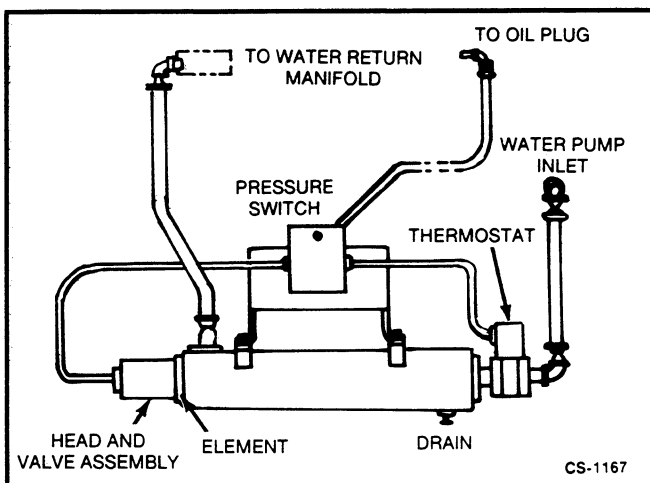

FIGURE 5-10. TYPICAL COOLANT HEATER
**Coolant Heater (Optional):** A coolant heater is used to keep engine coolant warm when the engine is shut down (see Figure 5-10). It heats and circulates the coolant within the engine. This reduces start-up time and lessens engine wear caused by cold starts. It is electrically operated and thermostatically controlled. A pressure switch (connected to the oil filter mounting head), senses a rise in oil pressure when the engine starts, and disconnects power to the heater element.